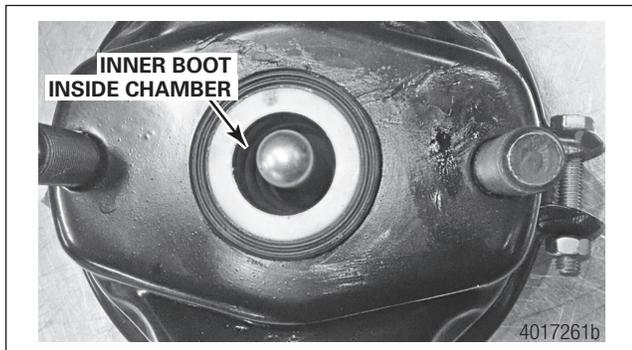

Fig. 10.3 Air Chamber Inner Boot
STEP 6 - Inspect the inner boot on the brake chamber for damage and proper seal. If the inner boot of the brake chamber is damaged, water can enter the caliper housing assembly, resulting in damage to the component. Figure 10.3.